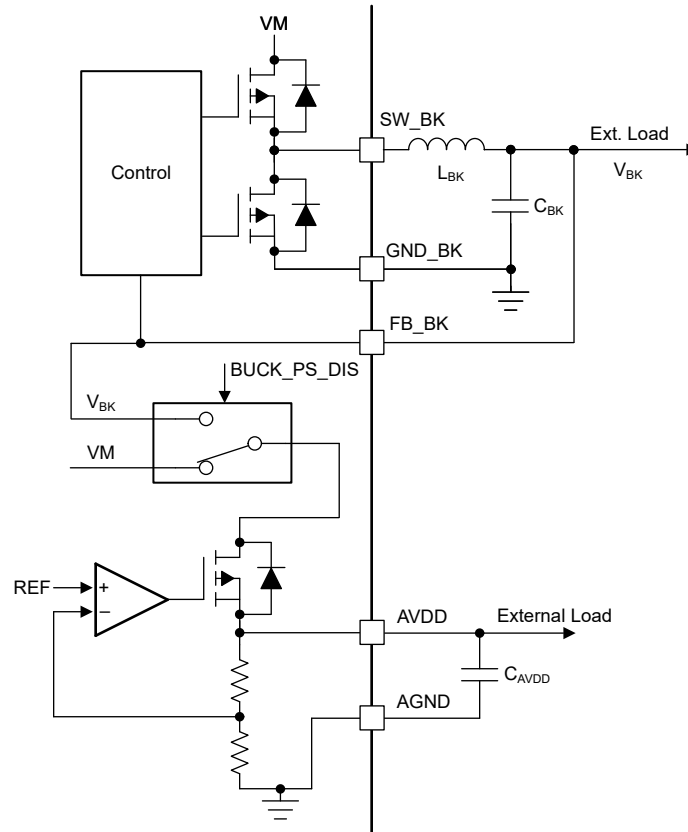

图 8-11. AVDD Power Sequencing on mixed mode Buck Regulator
The AVDD LDO has an option of using the power supply from mixed mode buck regulator to reduce power dissipation internally. The power sequencing mode allows on-the-fly changeover of LDO power supply from DC mains (VM) to buck output (VBK) as shown in 图 8-11. This sequencing can be configured through the BUCK\_PS\_DIS bit . Power sequencing is supported only when buck output voltage is set to 5.0 V or 5.7 V.